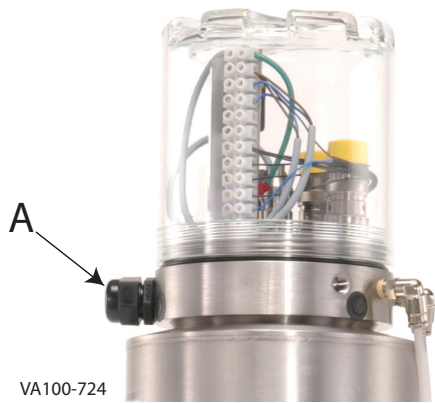

Figure 3 - Control Top Wire Connection Point
6. Connect the electrical control cord to the valve at location A (see Figure 3).